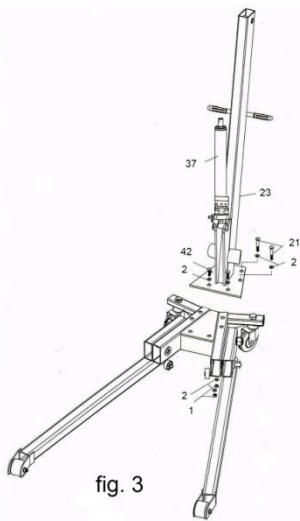

fig. 3
Attach mast (23) to base (9) with 2 m12x25 nuts (42), lock nuts (3), flat washers (2), m12x110 nuts (21), lock nuts (3) and flat washer (2) as shown in figure 3